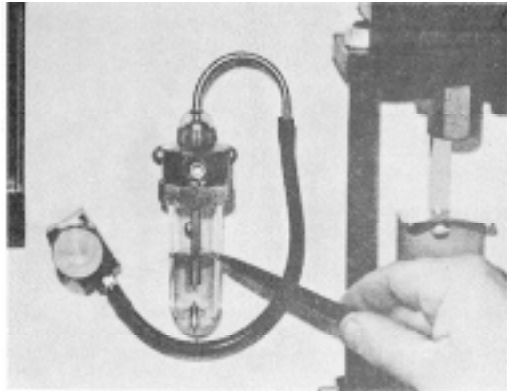

Fig. 6-1-46, F60169. Bubble check or bowl oil level
4. Fill bubble checker bowl with injector test oil to oil level marker. Fig. 6-1-46. To more easily fill bowl to specified level, it may be filled approximately 3/4 full and then drained to proper level through valve at bottom of bowl.